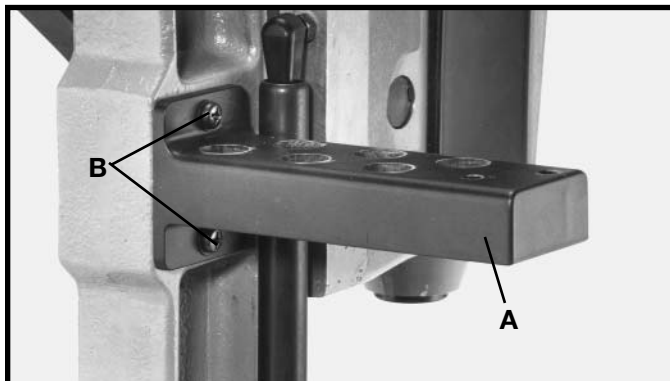

Fig. 14
1. Assemble tool and chisel holder (A) Fig. 14, to side of column using the two M6x1x25mm screws (B) and M6 flat washers as shown.